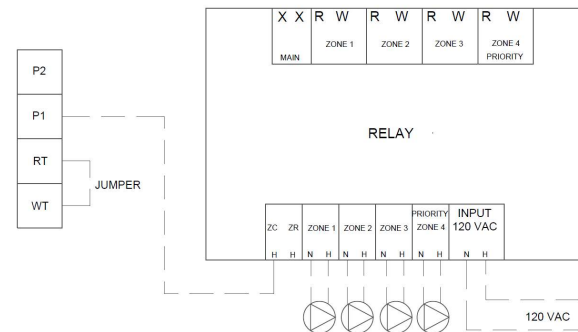

Figure 8 : Multiple pump system with all zones wired and free ZC ZR terminals (total current less than or equal to 5A)
For a multiple pump system with a switching relay box with all zones wired (Relay switch with ZC and ZR terminals, TACO type for example, see Figure 8):
- Install a pump relay (such as Honeywell RA832 or TACO SR501-4) near the auxiliary boiler. (see fig.8)
- Connect the “**TT**” of the auxiliary boiler on the “**XX**” relay RA832 terminals (see figure 6) or 6-5 of the relay TACO 501-4 (see figure 8)